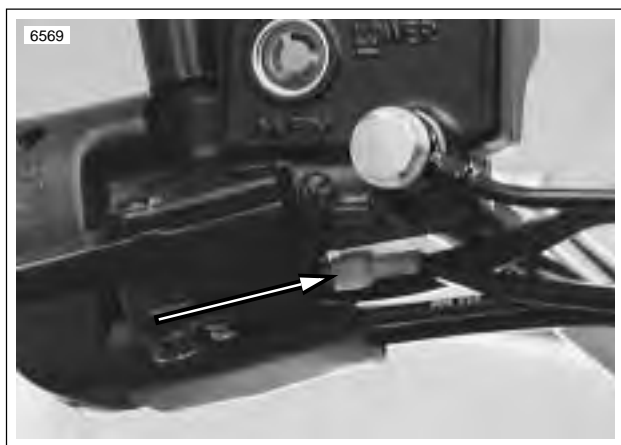

Figure 2-35. Brake Lamp Switch Connectors
3. See Figure 2-35. Verify brake lamp switches are secure. Attach wires to switches.